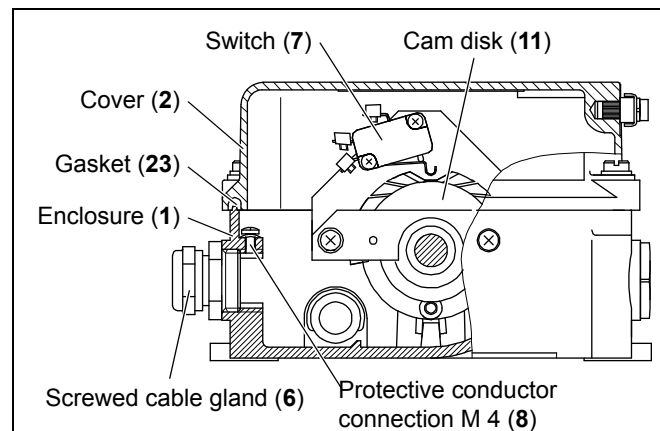

Fig. 5-6: View of the belt misalignment switch connections
3. Loosen the nut on the screwed cable gland (6) and thread the connection cable ($\varnothing 11.5$ mm to 15.5 mm) through it (see fig. 5-6).